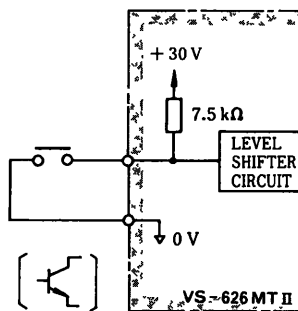

Fig. 2.5 Input Circuit
- Fig. 2.5 shows the input circuit, and Table 2.11 gives the signal functions.